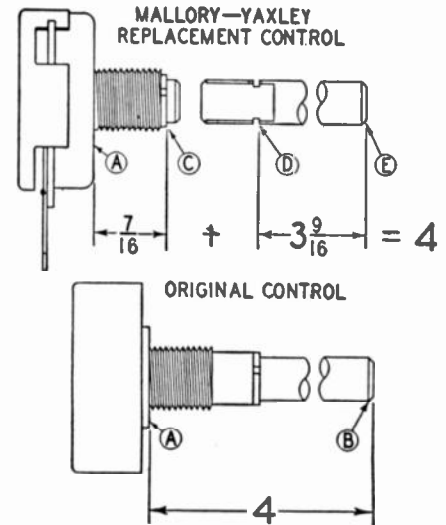

FIGURE 74
Fifteen (15) of the shafts are of such shape or design that their length is necessarily fixed but the other eight (8) are so designed that they will exactly fit many receivers by sawing them off at the required length. This is easy to do. The cutting may be done either before or after plugging in the shaft, though preferably before, as it is easier to handle. Figure 74 illustrates the method of ascertaining the correct length of shaft.